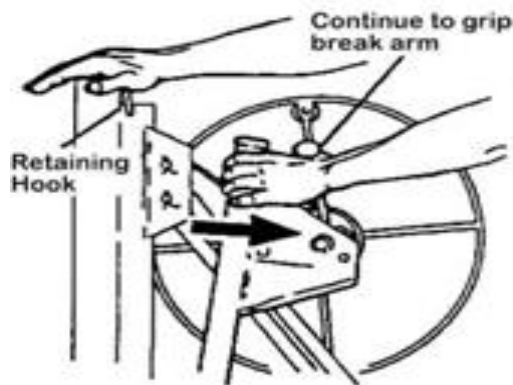

Figure 4
- c. Place your right hand on top of the frame. Continue to grip the brake arm as needed to prevent cable backlash, and pull the winch assembly all the way towards you. (Figure 4)